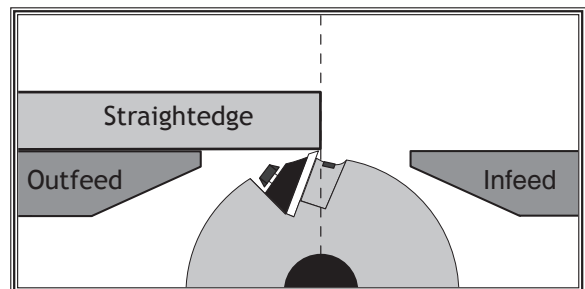

Figure 32. Knife height at top dead center.
- Knives are set correctly when they just touch bottom of straightedge at top dead center (TDC) (see **Figure 32**) in each straightedge position.